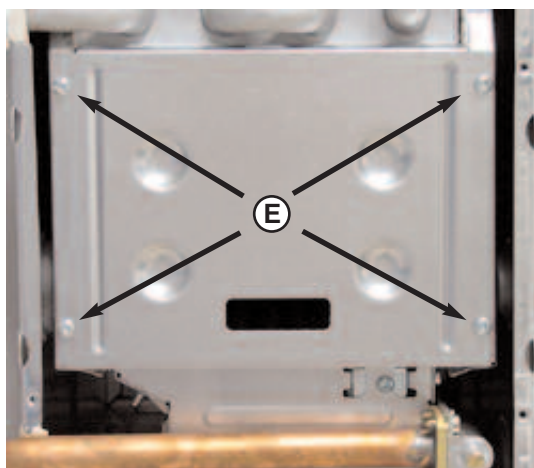

Fig. 18.19
2. Unscrew the four self tapping screws “E” to release the combustion chamber front panel and lift clear (see Fig. 18.19);